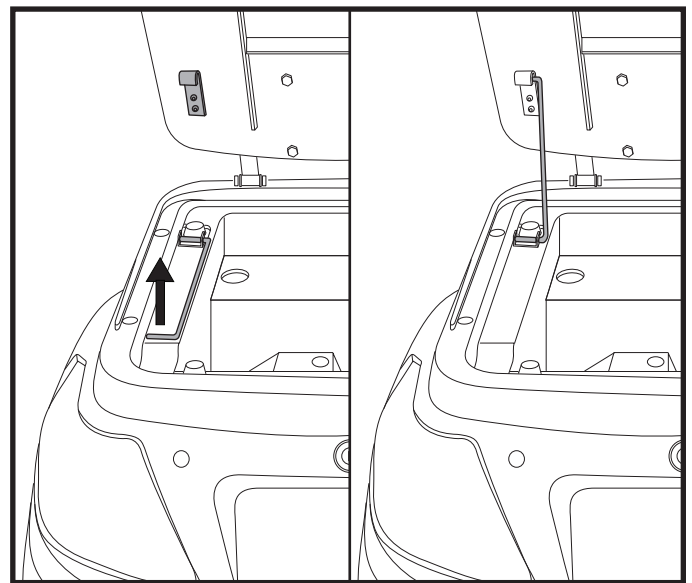

Figure 6. Seat Support Rod
3. Once the seat is flipped forward, engage the seat support rod on the left side to secure the seat in place. **See figure 6.**